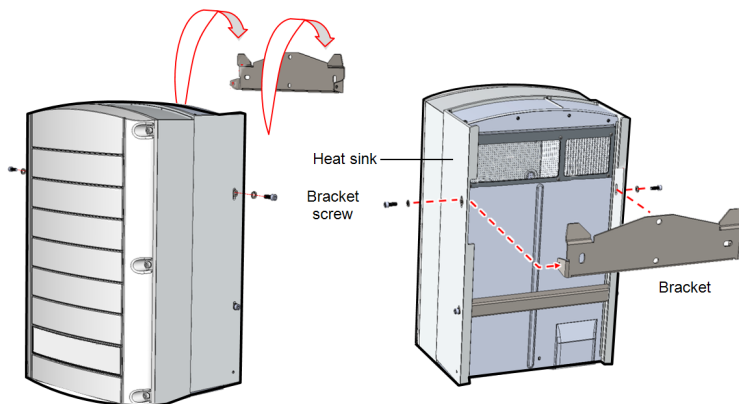

Figure 16: Hanging the Synergy Unit
- For the right or left Synergy Units, insert only one screw through the outer (exposed) side of the unit and into the bracket. Tighten the screws with a torque of 4.0 N*m (see *Figure 16*).